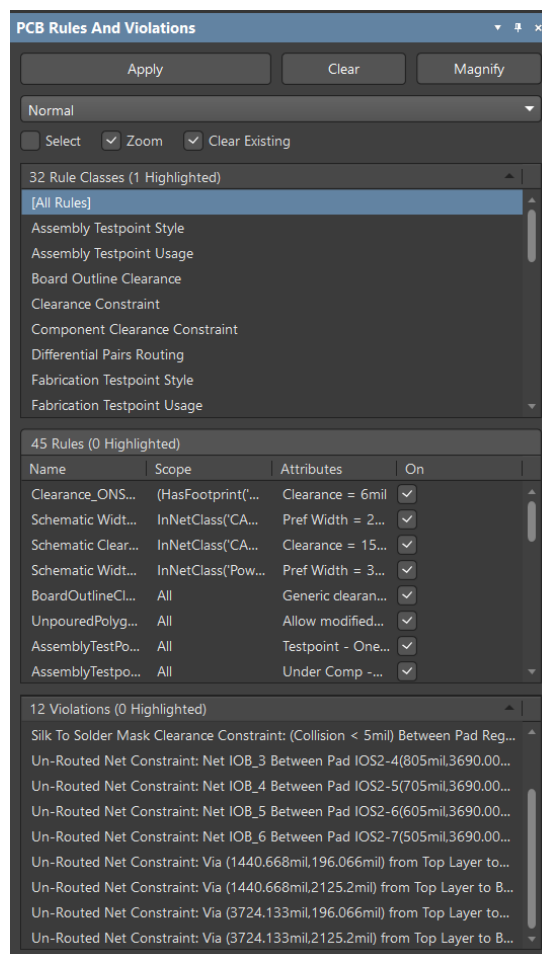

Figure 7. *PCB Rules and Violations* panel
20. This would open the *PCB Rules and Violations* panel. Dock this panel to the left or right of the workspace as shown in Figure 7.